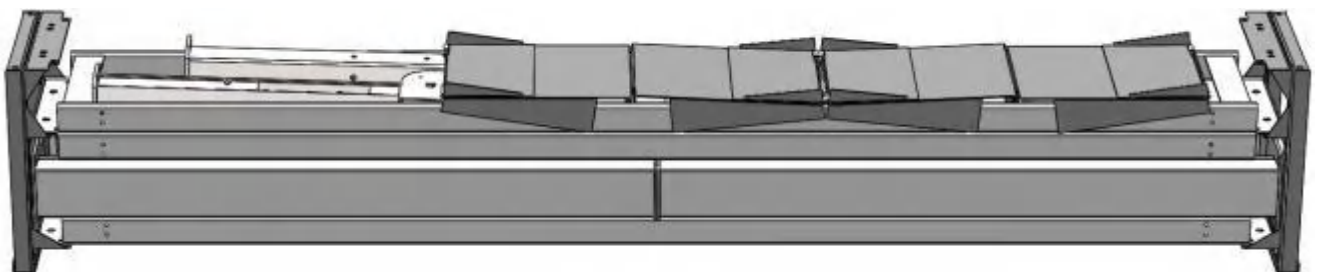

Fig. 10
3. Loosen the upper bolts of the package bracket, take out the offside platform on the top. (See Fig. 10)